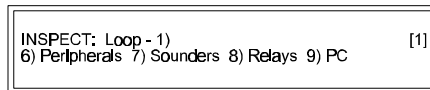

Figure 68: Inspect Submenu
- The system will prompt for the last three digits in the number. In Figures 68 and 69, the system currently has a value of 3.68667 Mhz. Changing the last three digits from 667 to 668 (**increasing** the last digit by one) will cause the clock to **lose** two seconds per week. Changing the last three digits to 666 (**decreasing** the last digit by one) will cause the clock to **gain** two seconds per week.